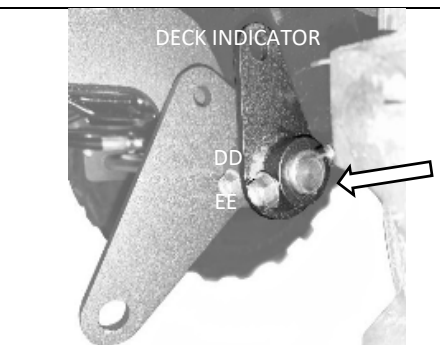

Figure 9A
7. Install the Deck Indicator (item 6). Secure the bracket using bolt DD and nut EE as indicated, figure 9A.